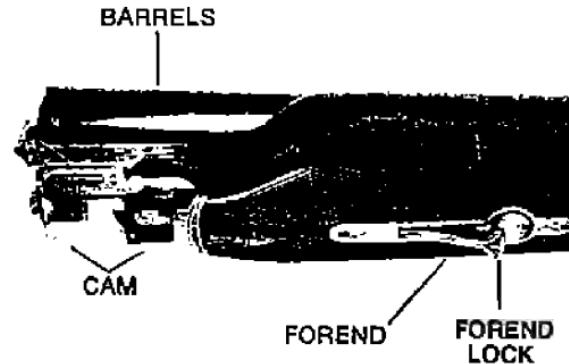

FIGURE 4-BARREL AND FOREND ASSEMBLY
1. Remove the forend from the barrels by raising the forend lock and pivoting the forend from its locked position. (See Figure 4)